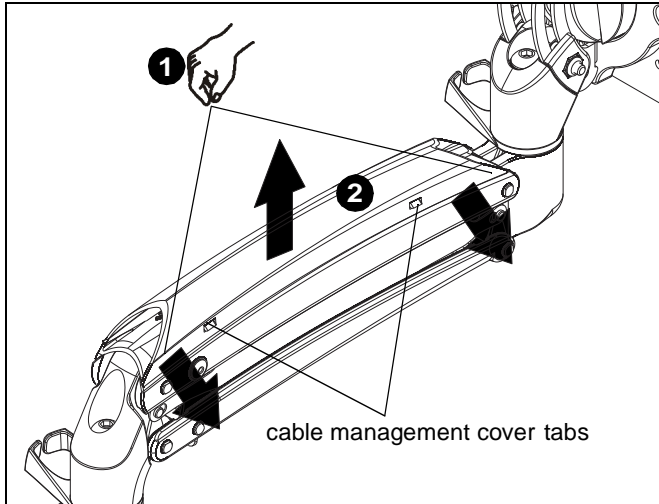

Figure 8
1. Press insides of cable management covers at both ends to unhinge tabs on either end of cable management cover on upper arm. (See Figure 8)
2. Lift cable management cover up until tabs are unhinged and cover is in the "open" position. (See Figure 8)